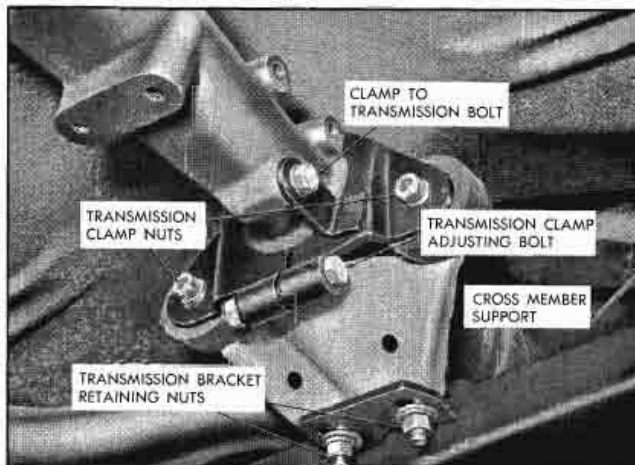

Fig. 6-19 Rear Engine Mount—Synchro-Mesh
2. Remove two transmission extension bracket to cross member support nuts (Fig. 6-19) and raise engine until transmission extension bracket studs are disengaged from lower cross member support.
3. Remove extension bracket to insulator retaining nuts (Fig. 6-19) and remove bracket.
4. Remove two front nuts from transmission extension clamp (Fig. 6-19) and remove insulators.